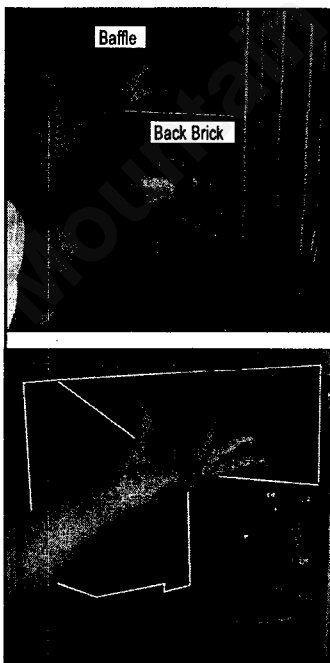

Figure 6
7. Place one hand on the top cast baffle to hold it in place while you remove the back cast brick with your other hand. Place your hand in the drop tube hole and tilt the back forward, then pull up and out. **Figure 6.**